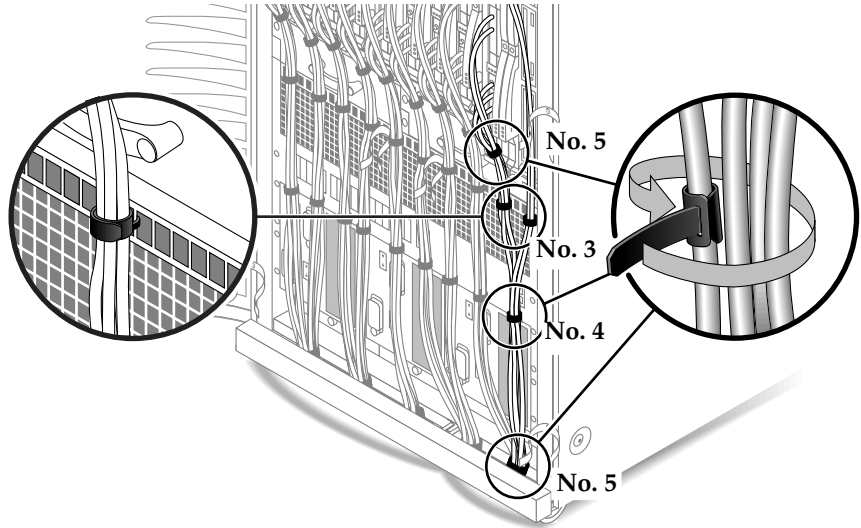

FIGURE 2-7 Black Permanent Straps
5. **Just below the I/O board attach a black cable strap (No. 5) to one of the cables and wrap the strap around the remaining cables in the I/O board set to bind all of the cables together (FIGURE 2-7).**
6. **Vertically secure each of the bundled cable sets and the SC cables to the black cable hanger straps (FIGURE 2-7).**
7. **At the top of the power supplies, secure a black lite cable strap (No. 4) to one of the cables and wrap the strap around the remaining cables in the cable set to bind all of the cables together (FIGURE 2-7).**
8. **At the base of the system, secure a black cable strap (No. 5) to one of the cables and wrap the strap around the cables in two cable sets to bind the two sets together (FIGURE 2-7).**
10. Secure a black cable strap (No. 5) to one of the cable bundles below the tile floor and wrap the strap around the three bundles to bind them together (FIGURE 2-7).